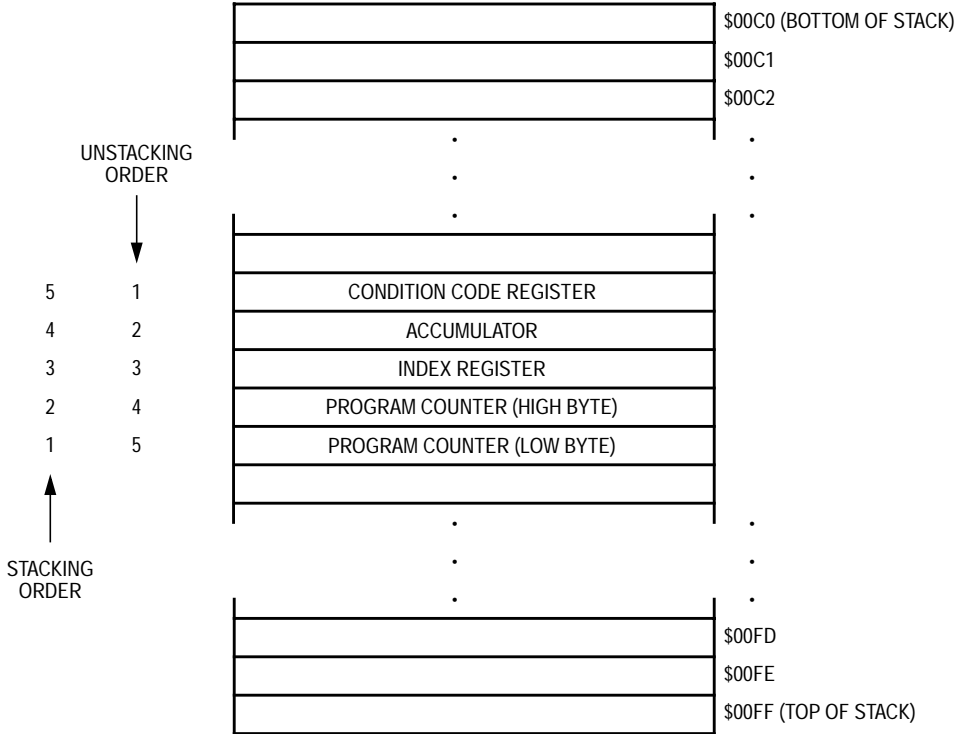

Figure 5-6. Interrupt Stacking Order
- Stores the CPU registers on the stack in the order shown in Figure 5-6
The return-from-interrupt (RTI) instruction causes the CPU to recover the CPU registers from the stack as shown in Figure 5-6.